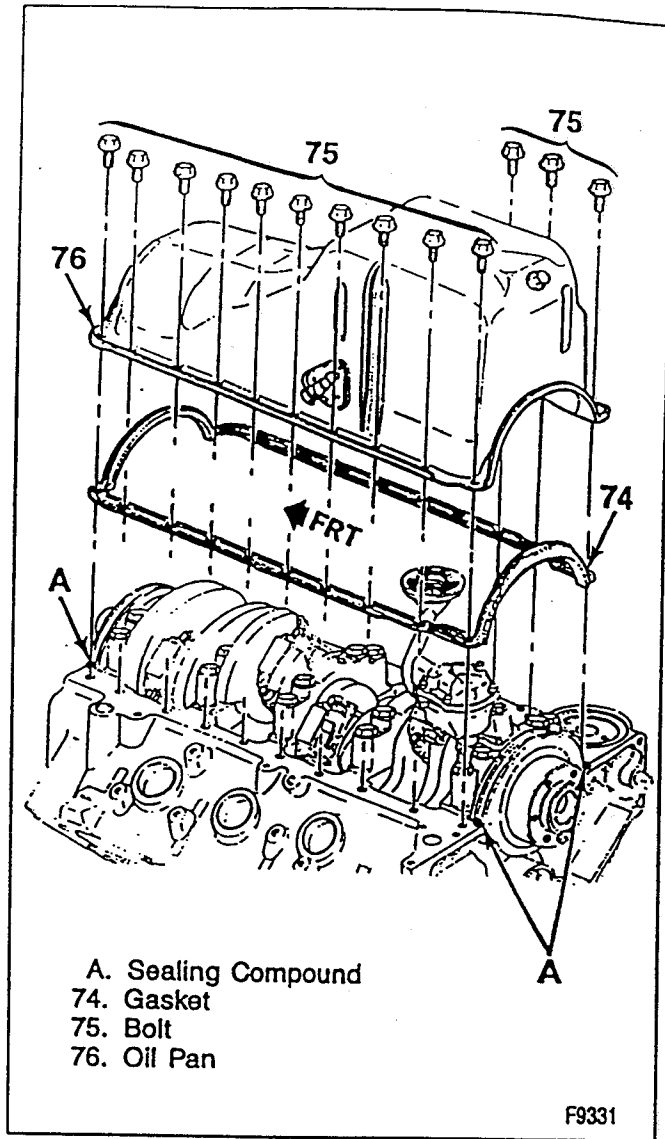

Figure 85—Oil Pan (7.4L Engines)
Install or Connect (Figure 85)
- Apply RTV sealer (GM P/N 12346141) or equivalent in four places where the front and rear main bearing caps meet the engine block as shown in figure 85.
1. Gasket (74) to the block.
2. Oil pan (76). Make sure the gasket stays in place.